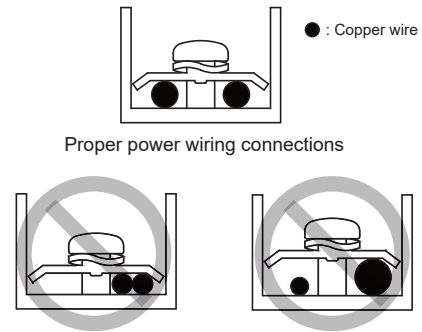

Figure 9.2
- Do not connect two power cords with different diameters to the same power supply terminal (may cause overheating of wires due to loose wiring) (See Figure 9.2).